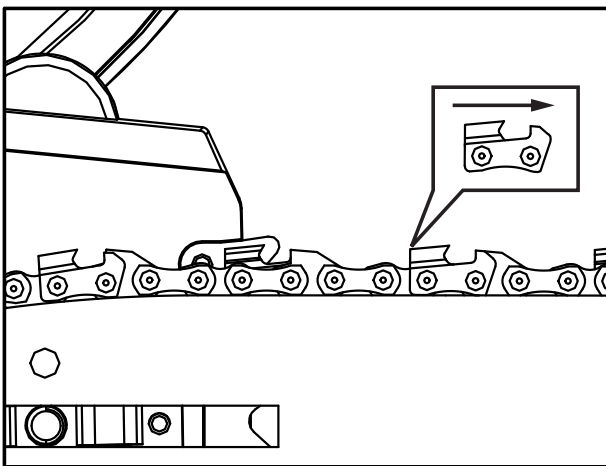

Figure 9 - Correct teeth direction
3. Wearing protective gloves, wrap the saw chain around the guide bar, making sure that the teeth are aimed in the direction of rotation (Figure 9). The chain should be properly set in the slot running along the entire outside edge of the guide bar.
3. Place the new chain in this position, making sure the teeth are facing the correct direction and that the edge of the chain fits into the slot around the guide bar (Figure 9).